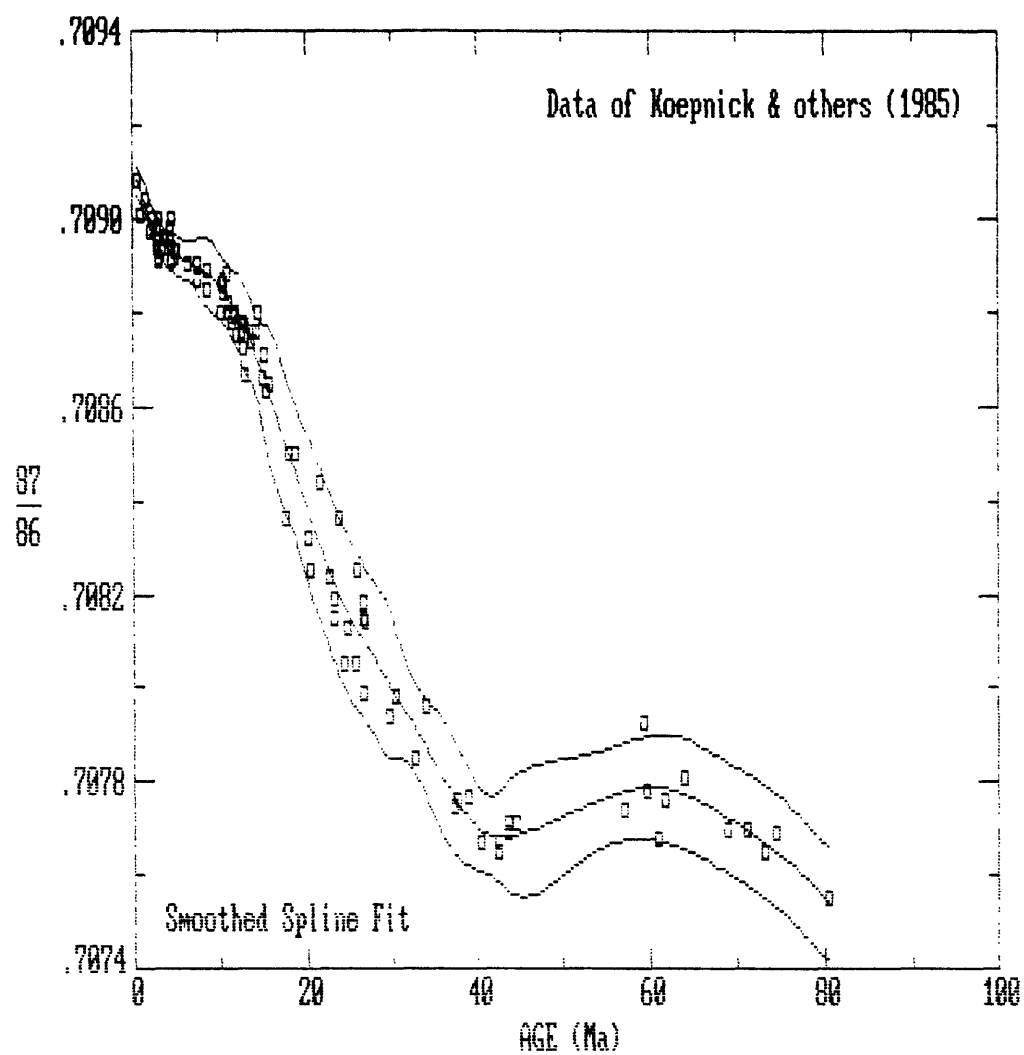

fig. 3
- Figure 3: Example of X-Y plot with spline curves fit to the Sr-isotope data (boxes) of Koepnick and others (1985). The curves were constructed with the Smoothed Spline option, and indicate roughly the uncertainty at any point in the curve.